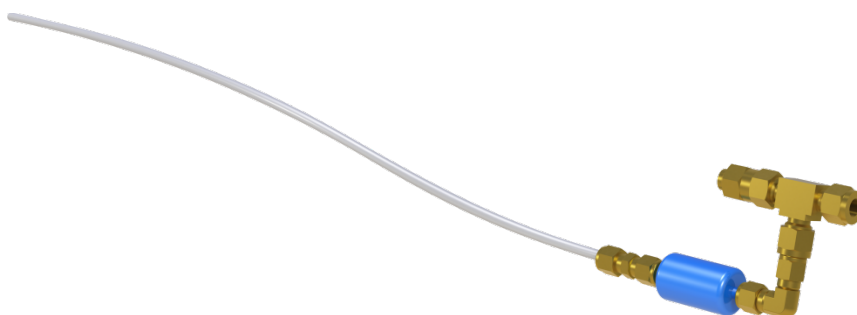

FIGURE 6-1. Bypass tube and filter assembly
1. Locate the bypass tube and filter assembly packed inside the EC155 carrying case or shipping box. The assembly is shown in FIGURE 6-1.